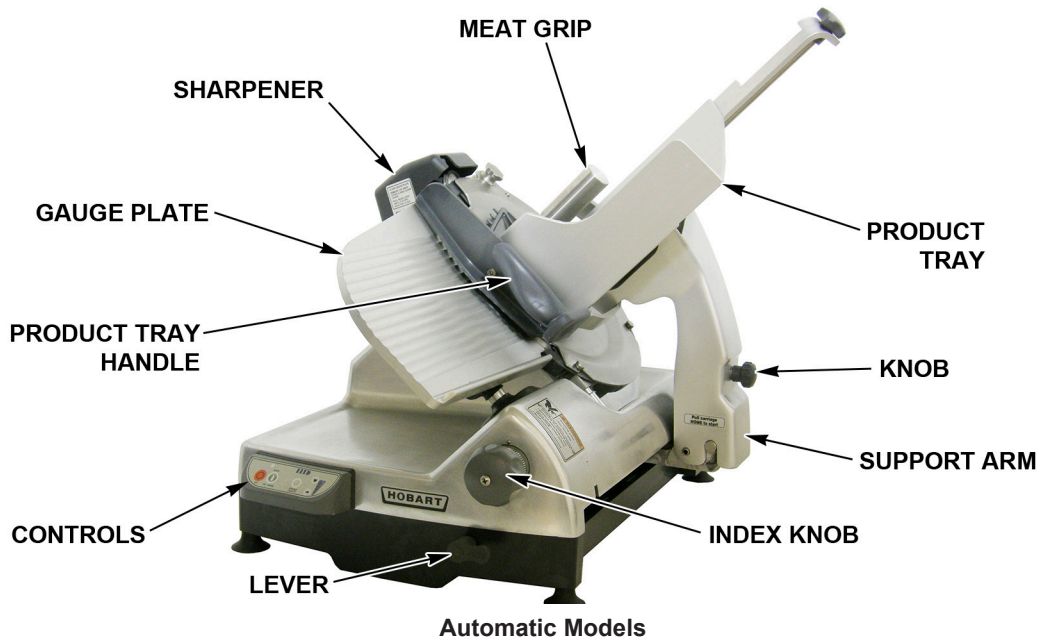
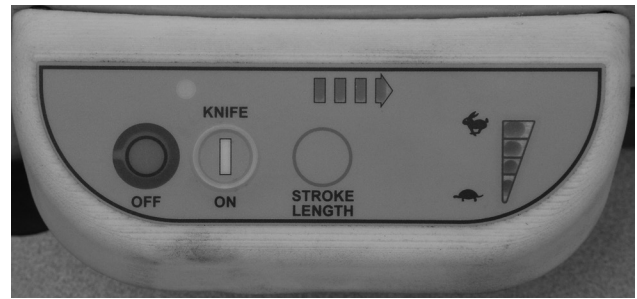

Fig. 1
Fig. 5
- Gauge Plate Interlock – prevents the Product Tray (Fig. 1) from being tilted or removed unless the Product Tray is in the home position (pulled all the way forward) and the Gauge Plate is closed.
- Home Start – requires the Product Tray (Fig. 1) to be in the home position (pulled all the way forward) before the slicer can be started.
- Close-to-Stop – turns the slicer off when the Gauge Plate is returned to the closed position by turning the Index Knob (Fig. 1) fully clockwise. The slicer also is turned off if the OFF button is pressed.
The Product Tray (Fig. 1) must be installed.
- Close the Gauge Plate (Fig. 1) by turning the Index Knob (Fig. 1) fully clockwise.
- Pull the Product Tray (Fig. 1) toward the operator until it reaches its stop. This is the home position.
- Raise the Meat Grip (Fig. 1) to the top of the Product Tray to rest in the Meat Grip Slot.
- Place the product to be sliced against the Gauge Plate (Fig. 1) on the Product Tray (Fig. 1).
- Use the Product Tray Handle (Fig. 1) to push and pull the Product Tray back and forth to slice. When finished, pull the Product Tray forward until it stops. Turn the Index Knob fully clockwise to close the Gauge Plate, this will turn the slicer off. The OFF Button (Fig. 3) can also be pressed to stop the slicer.
- Turn the slicer on by pressing the KNIFE ON button (Fig. 5).
- Use the Product Tray Handle (Fig. 1) to push and pull the Product Tray back and forth to slice. When finished, pull the Product Tray forward until it stops. Turn the Index Knob fully clockwise to close the Gauge Plate. This will turn the slicer off. The OFF Button (Fig. 5) can also be pressed to stop the slicer.
- Select one of the four speeds for the Product Tray to move back and forth. Press the Rabbit symbol (Fig. 5) to increase speed; press the Turtle symbol (Fig. 5) to decrease speed. The speed indicator, located to the right of the symbols, shows which speed is selected. The speed can be changed at any time.
- Select a stroke length for the Product Tray to move back and forth. Press the STROKE LENGTH button (Fig. 5) to toggle through the lengths. The indicator above the button shows the length. More lights equal a longer stroke. The stroke length can be changed at any time.
- When finished, turn the Index Knob fully clockwise to close the Gauge Plate or press the KNIFE ON button (Fig. 5) to stop the slicer. This will stop the slicer and return the Product Tray to the home position.